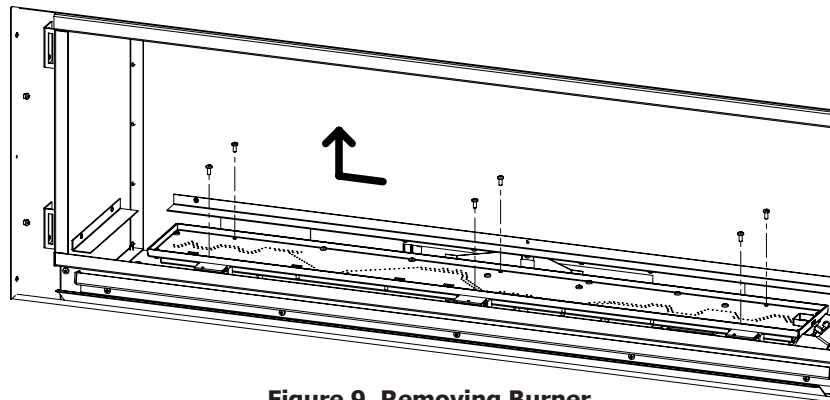

Figure 9. Removing Burner
6. Remove the six T-20 screws securing the burner pan as shown in Figure 9; do **NOT** remove the other T-20 screws. Once the specified screws are removed slide burner to the left and lift out to remove.